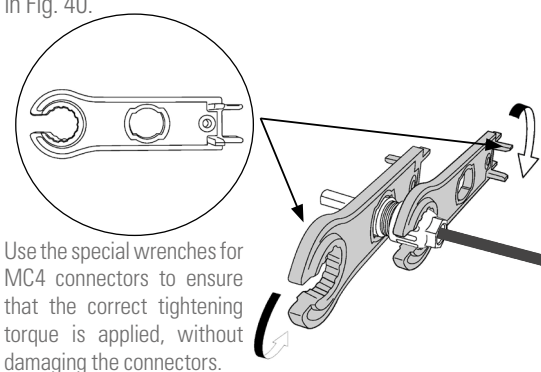

Fig. 40. Using an open-end wrench.
- f. Use an open-end wrench to screw the nut all the way in and make sure that the terminal is sealed well, as shown in Fig. 40.